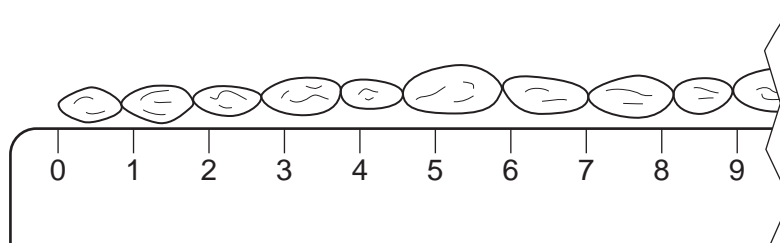

Fig. 1.2
Step 3 Take 15 raisins and line the raisins up, touching end to end along a ruler, as shown in Fig. 1.2.